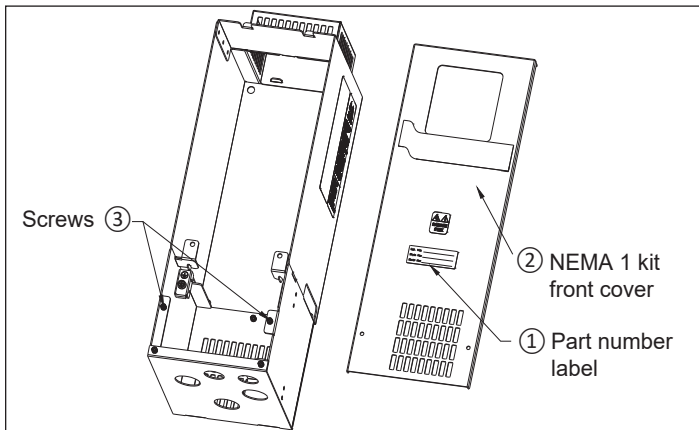

Figure 13. Completing the product information on the part number label.
Remove the two screws ③ and disassemble the NEMA 1 kit front cover ② (see Figure 13).